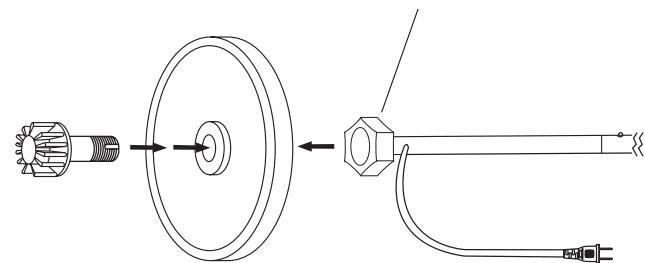

Figure 4
4. Place the cable in the base as in Figure 4.